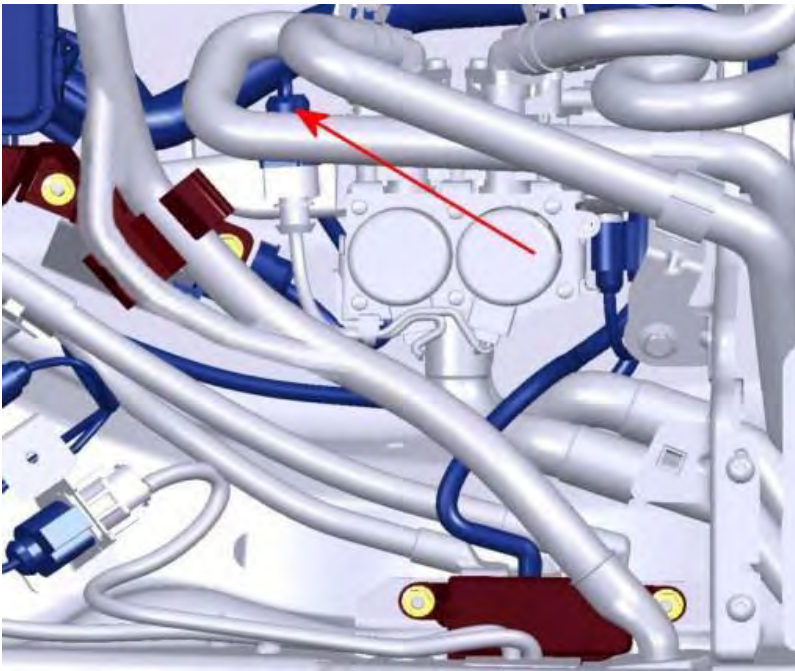

Figure3
2. Disconnect the Water Pump / Valve unit plug from the electrical connector shown in *Figure 3*.